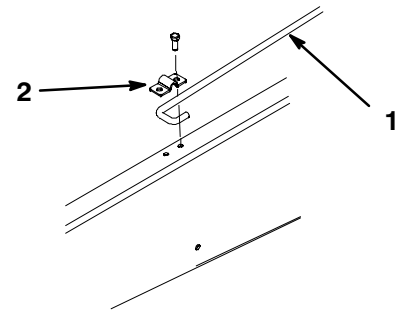

Figure 10
5. Have a helper raise the cargo box until the "J" hook end of the prop rod is positioned between the (2) holes on the left frame rail (Fig. 10).
6. Secure the prop rod to the frame rail with the prop rod clip and (2) 5/16 x 3/4" cap screws (Fig. 10).